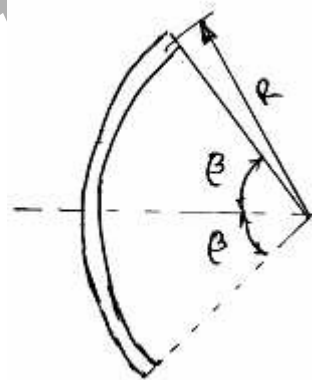

Figure 7
7. A cross-section in the shape of a circular arc of uniform thickness is subtending an angle β from either side of the symmetrical axis. Shown in figure 7. That shear centre $e = 2R(\sin\beta - R\cos\beta)/(R - \sin\beta \cdot \cos\beta)$. [16]